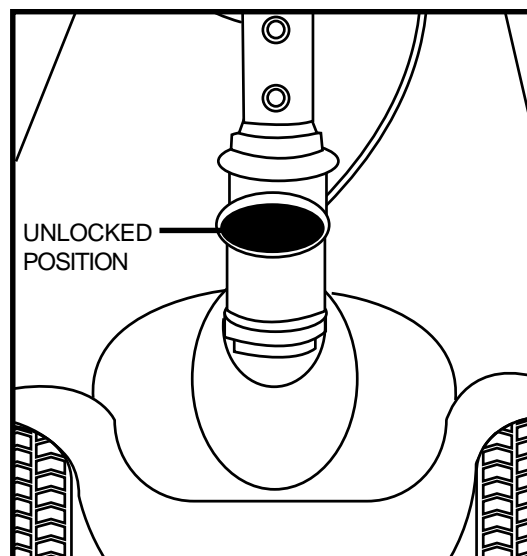

Figure 22. Tiller Lock Knob (Unlocked)
6. Unlock the front wheel by turning the tiller lock knob 90° counterclockwise. **See figure 22.**